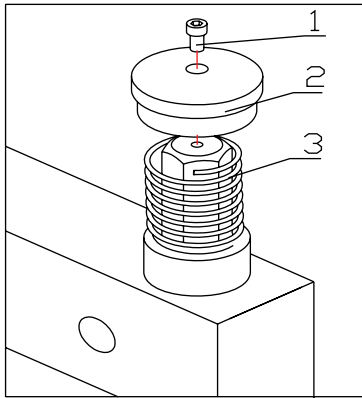

Figure 5-3
- Hold up the mounting arm at a certain distance, dismantle screws (1), cap (2), mount the spring(3) and tighten screws(1) (figure 5-3)